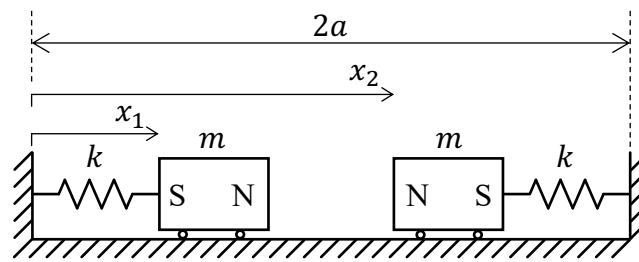

Fig. 6
6 Two identical magnets of mass m are connected to fixed walls by linear springs of stiffness k and are constrained to move along a frictionless horizontal surface, as illustrated in Fig. 6. The walls are separated by a distance $2a$, and the natural lengths of the springs are both a . Let x_1 and x_2 denote the absolute horizontal displacements of the two masses from the left wall, with $x_2 \geq x_1$. The North (N) and South (S) poles of the magnets are oriented as shown, and the potential energy associated with the magnets is modelled as: